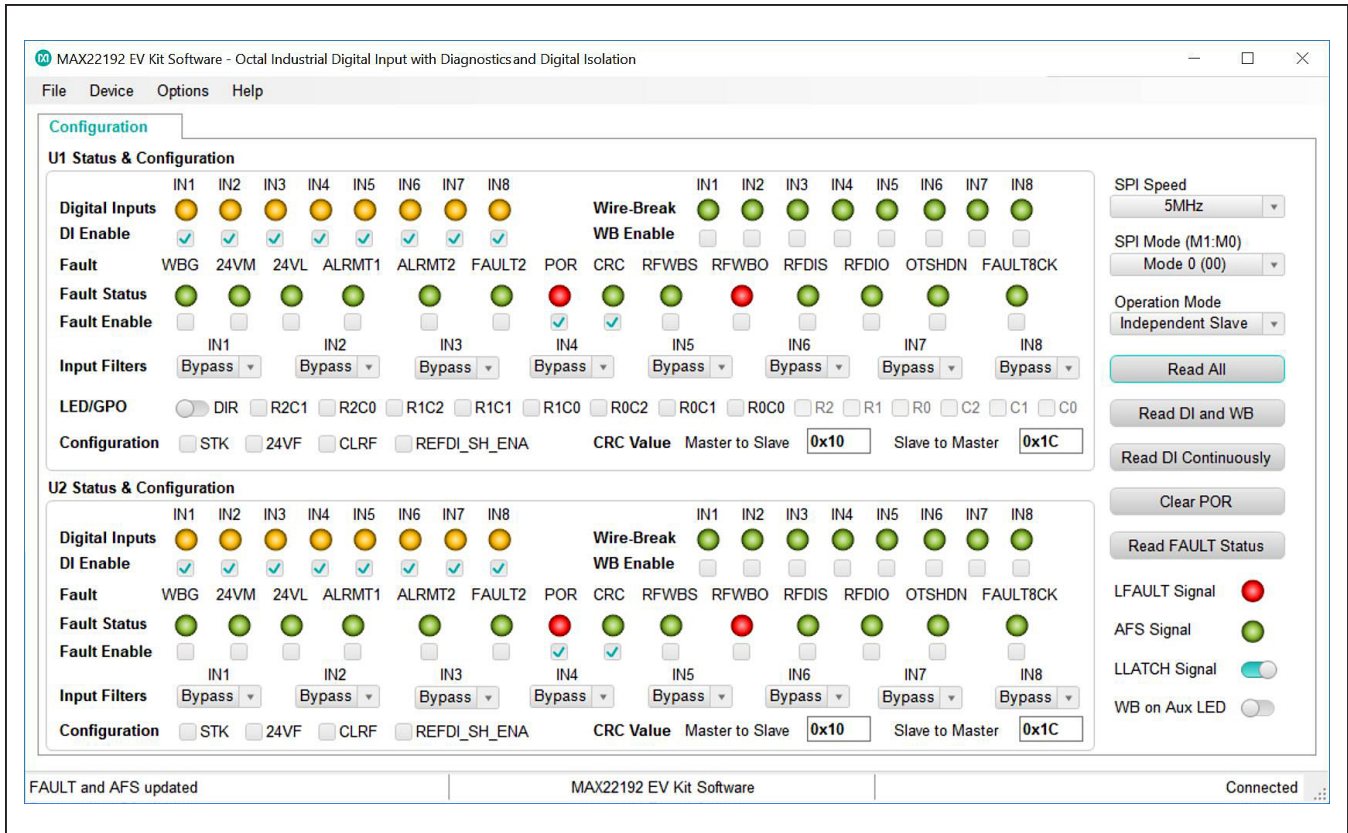

Figure 2. MAX22192 EV Kit Software Startup Window
- 11) Once the hardware is ready to use, launch the EV kit software by opening its icon in the **Start | Programs** menu. During the EV kit software launch, two message boxes are shown to indicate the default operation mode (independent slave mode), and U1 and U2 SPI Mode (Mode 0). Click **OK** to close the message boxes. The EV kit software appears as shown in Figure 2.
When the MAX22192 EV kit software starts, it automatically detects if the EV kit is connected to a PC and indicates it in the status bar at the bottom edge of the GUI. If the software does not recognize the USB2PMB2# adapter board, make sure that the software and all drivers are properly installed, check the USB connection, and go to the **Device** menu and select the **Search for Hardware** option. When the EV kit is properly connected, the MAX22192 (U1) and MAX22190 (U2) devices are read and all controls are updated (see Figure 2).
After power up, the MAX22192  $\overline{\text{LFAULT}}$  pin is low and the POR bit in the FAULT1 register is set, indicating that a power-on-reset has happened and all registers are set to default (Figure 2). After clicking the **Clear POR** button, the GUI clears the POR bit in the FAULT1 register. The  $\overline{\text{LFAULT}}$  pin is pulled high and FAULTB1 and FAULTB2 LEDs are turned off after clearing the POR (Figure 3).